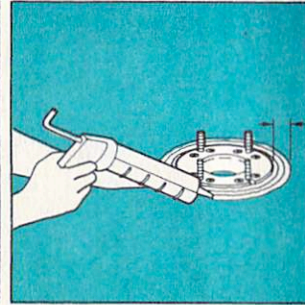

Figure 2
**4.** If toilet is being installed in shower stall, apply a 1/4" thick x 3/4" wide layer of glazing compound around the circumference of the floor flange. (See Fig. 2).